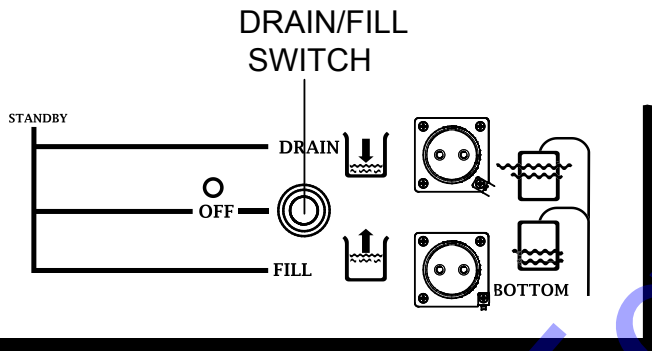

Figure 12. DRAIN/FILL Switch
1. Turn the DRAIN/FILL switch to the **OFF** position (Figure 12).
- Turn the DRAIN/FILL switch to the **DRAIN** position (Figure 12).
- Turn the DRAIN/FILL switch to the **FILL** position (Figure 12).